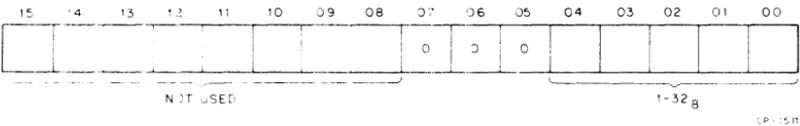

Figure 6 RXSA Format
**RX Sector Address (RXSA) (Figure 6)** – This register is loaded to indicate on which of the 32B sectors a given function is to operate. It can be addressed only under the protocol of the function in progress. Bits 8 through 15 are unused and are ignored by the control.